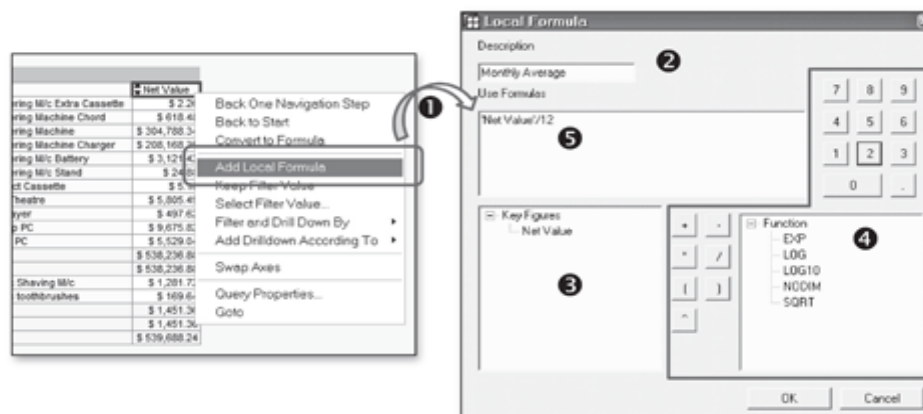

Figure 10.22 Add a Local Formula
The option to create a local formula in a workbook is available in the context menu for the key figure column header cell (Figure 10.22).
Select Add Local Formula from the context menu of the key figure header, as shown in ❶ of Figure 10.22. This opens the Local Formula pop-up window where you define the formula logic.